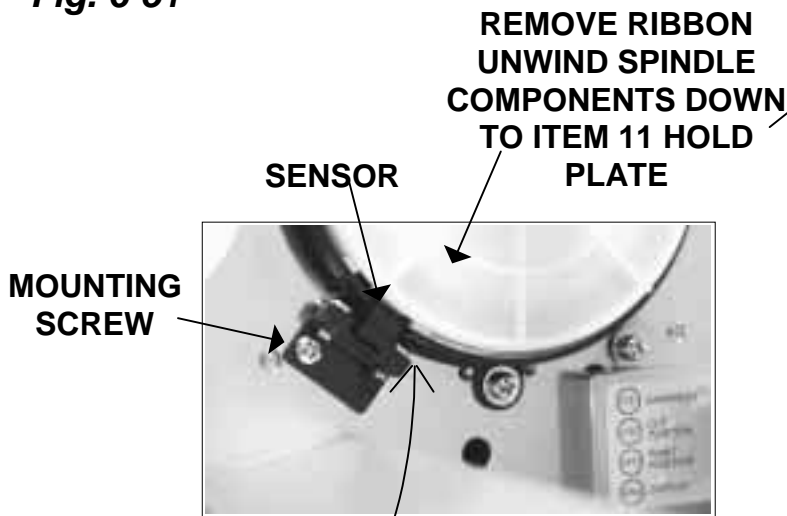

Fig. 6-53
6.	Remove sensor mounting screw. Fig.6-53